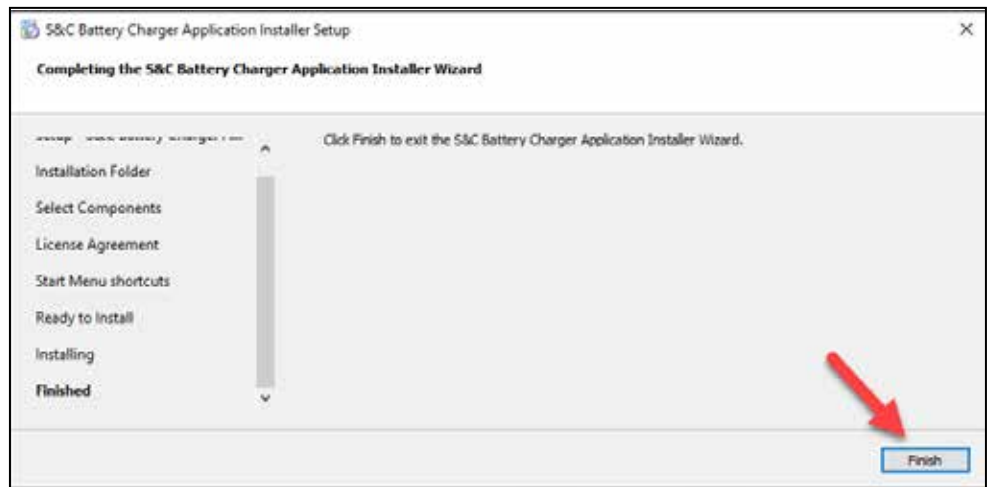

Figure 9. A completed S&C Battery Charger Application installation.
STEP 8. Click on the **Finish** button to exit the installer. See Figure 9.